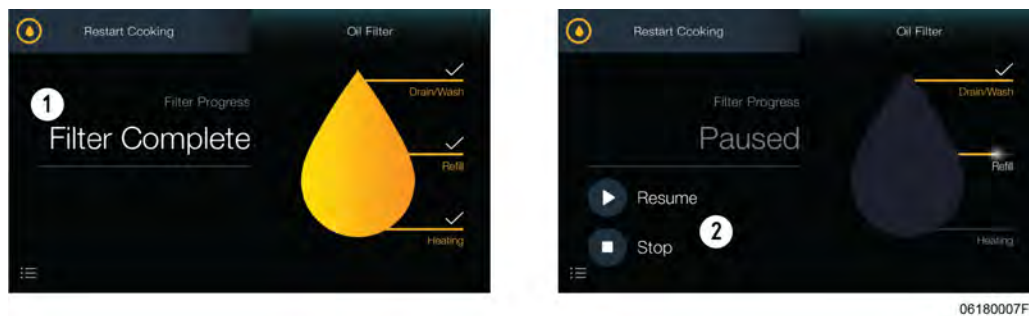

Figure 4-16
- 6) Once heated, **Filter Complete** displays followed by the cooking screen, see (1) Figure 4-16 , page 29.
Team members have the option to pause each step, followed by either resuming the step or stopping the express filter, see (2) Figure 4-16 , page 29.